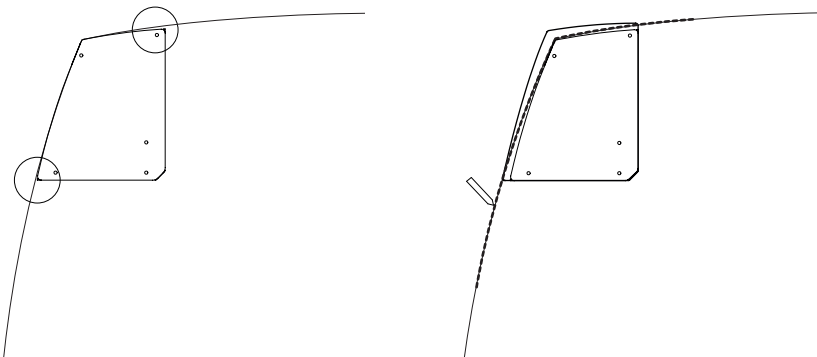

figure 4
3. The shelf is designed to fit the angles most commonly found after wall and ceiling panelling. However when experiencing small gaps between the wall and/or ceiling you can add an extra panel to create a need finishing. Trim your specific angles on a template and place it over the side panel. (fig 4)